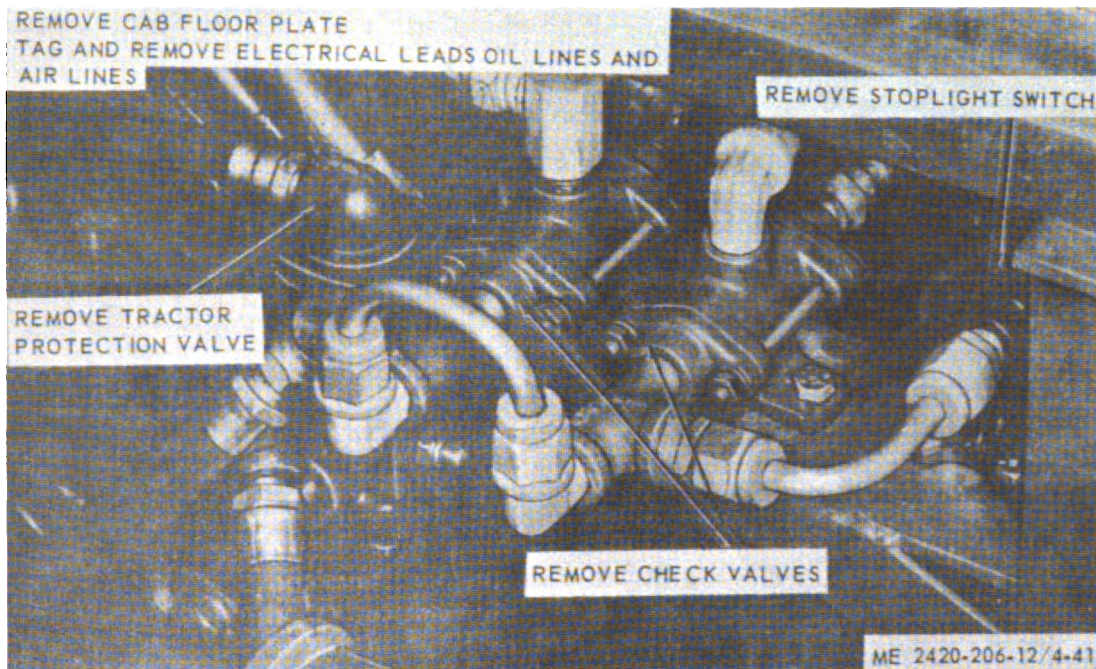

Figure 4-41. Check and protection valves and stoplight switch, removal and installation.
a. *Removal.* Remove check and protection valves and stoplight switch as illustrated in figure 4-41.
(1) Clean all parts and dry thoroughly.
(2) Inspect parts for cracks, breaks and other damage. Replace defective parts as necessary.
c. *Installation.* Install parts as illustrated in figure 4-41.